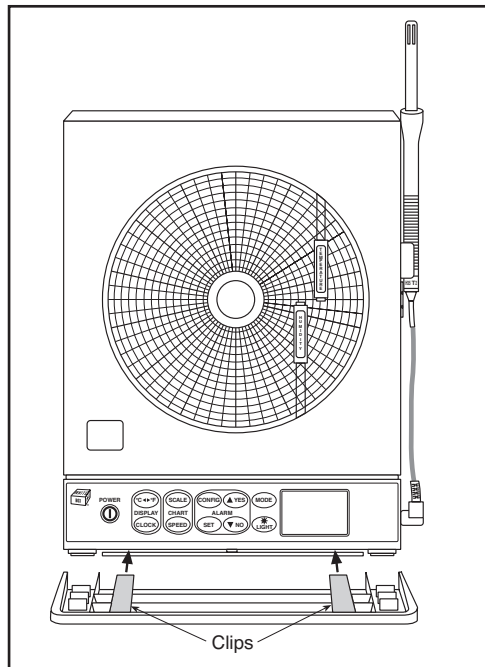

Figure 2-4a. Installing the Foot Cover (Top View)
2. Roughly position the foot cover so the clips are in line with the stabilizing arm. Gently “stretch” the clips out and position over the arm as shown in Figure 2-4a.